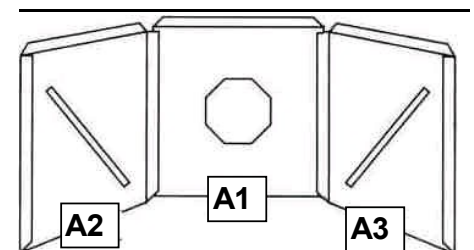

Fig. 1: Front wall and side walls
Step 2: All three parts have on one edge a glue tab that is slanted on both sides. This edge is the top, and the viewing window will later be glued to it. Stand the front wall [A1] with this tab at the top in front of you, the black inner side towards you, and on the left at a right-angle to it stand the left side wall [A2] so that the side with the two slanted glue tabs is at the top. The black sides of both parts are then facing inwards, and the gold printed sides outwards (Fig. 1). Ensure that the rectangular sloping glue mark with the 5 arrows is on the inside of the left side wall